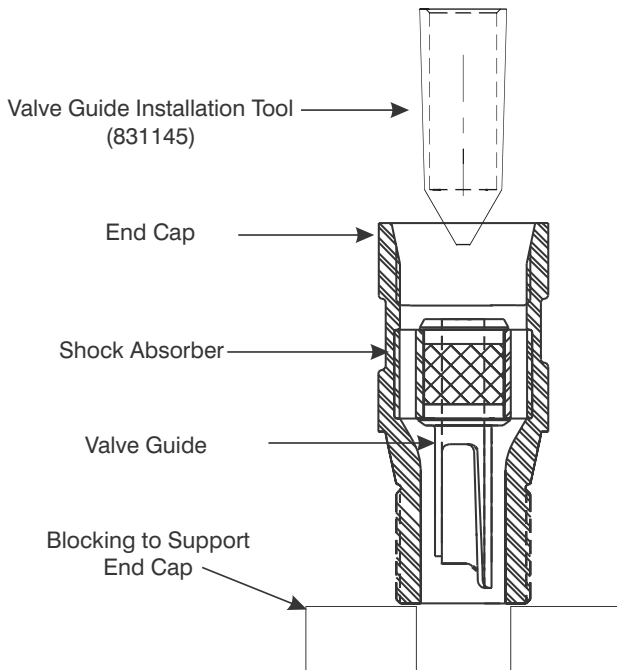
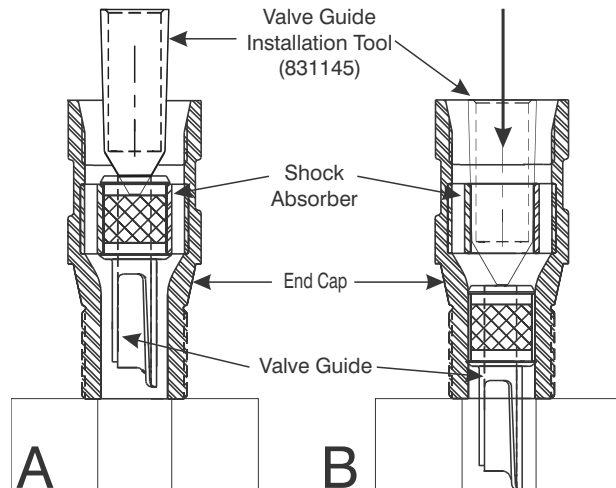

Figure 8-36. Place End Cap in Arbor Press
Figure 8-37. Press Valve Guide from the Shock Absorber.
1. With threaded end down, place the End Cap in an arbor press as shown in Figure 8-36.
- Support the edges of the End Cap (8) with standard blocking.
2. Insert the Valve Guide Installation Tool P/N 831145 in the Valve Guide as shown in Figure 8-37-A.
3. Press the Valve Guide from the Shock Absorber as shown in Figure 8-37-B.